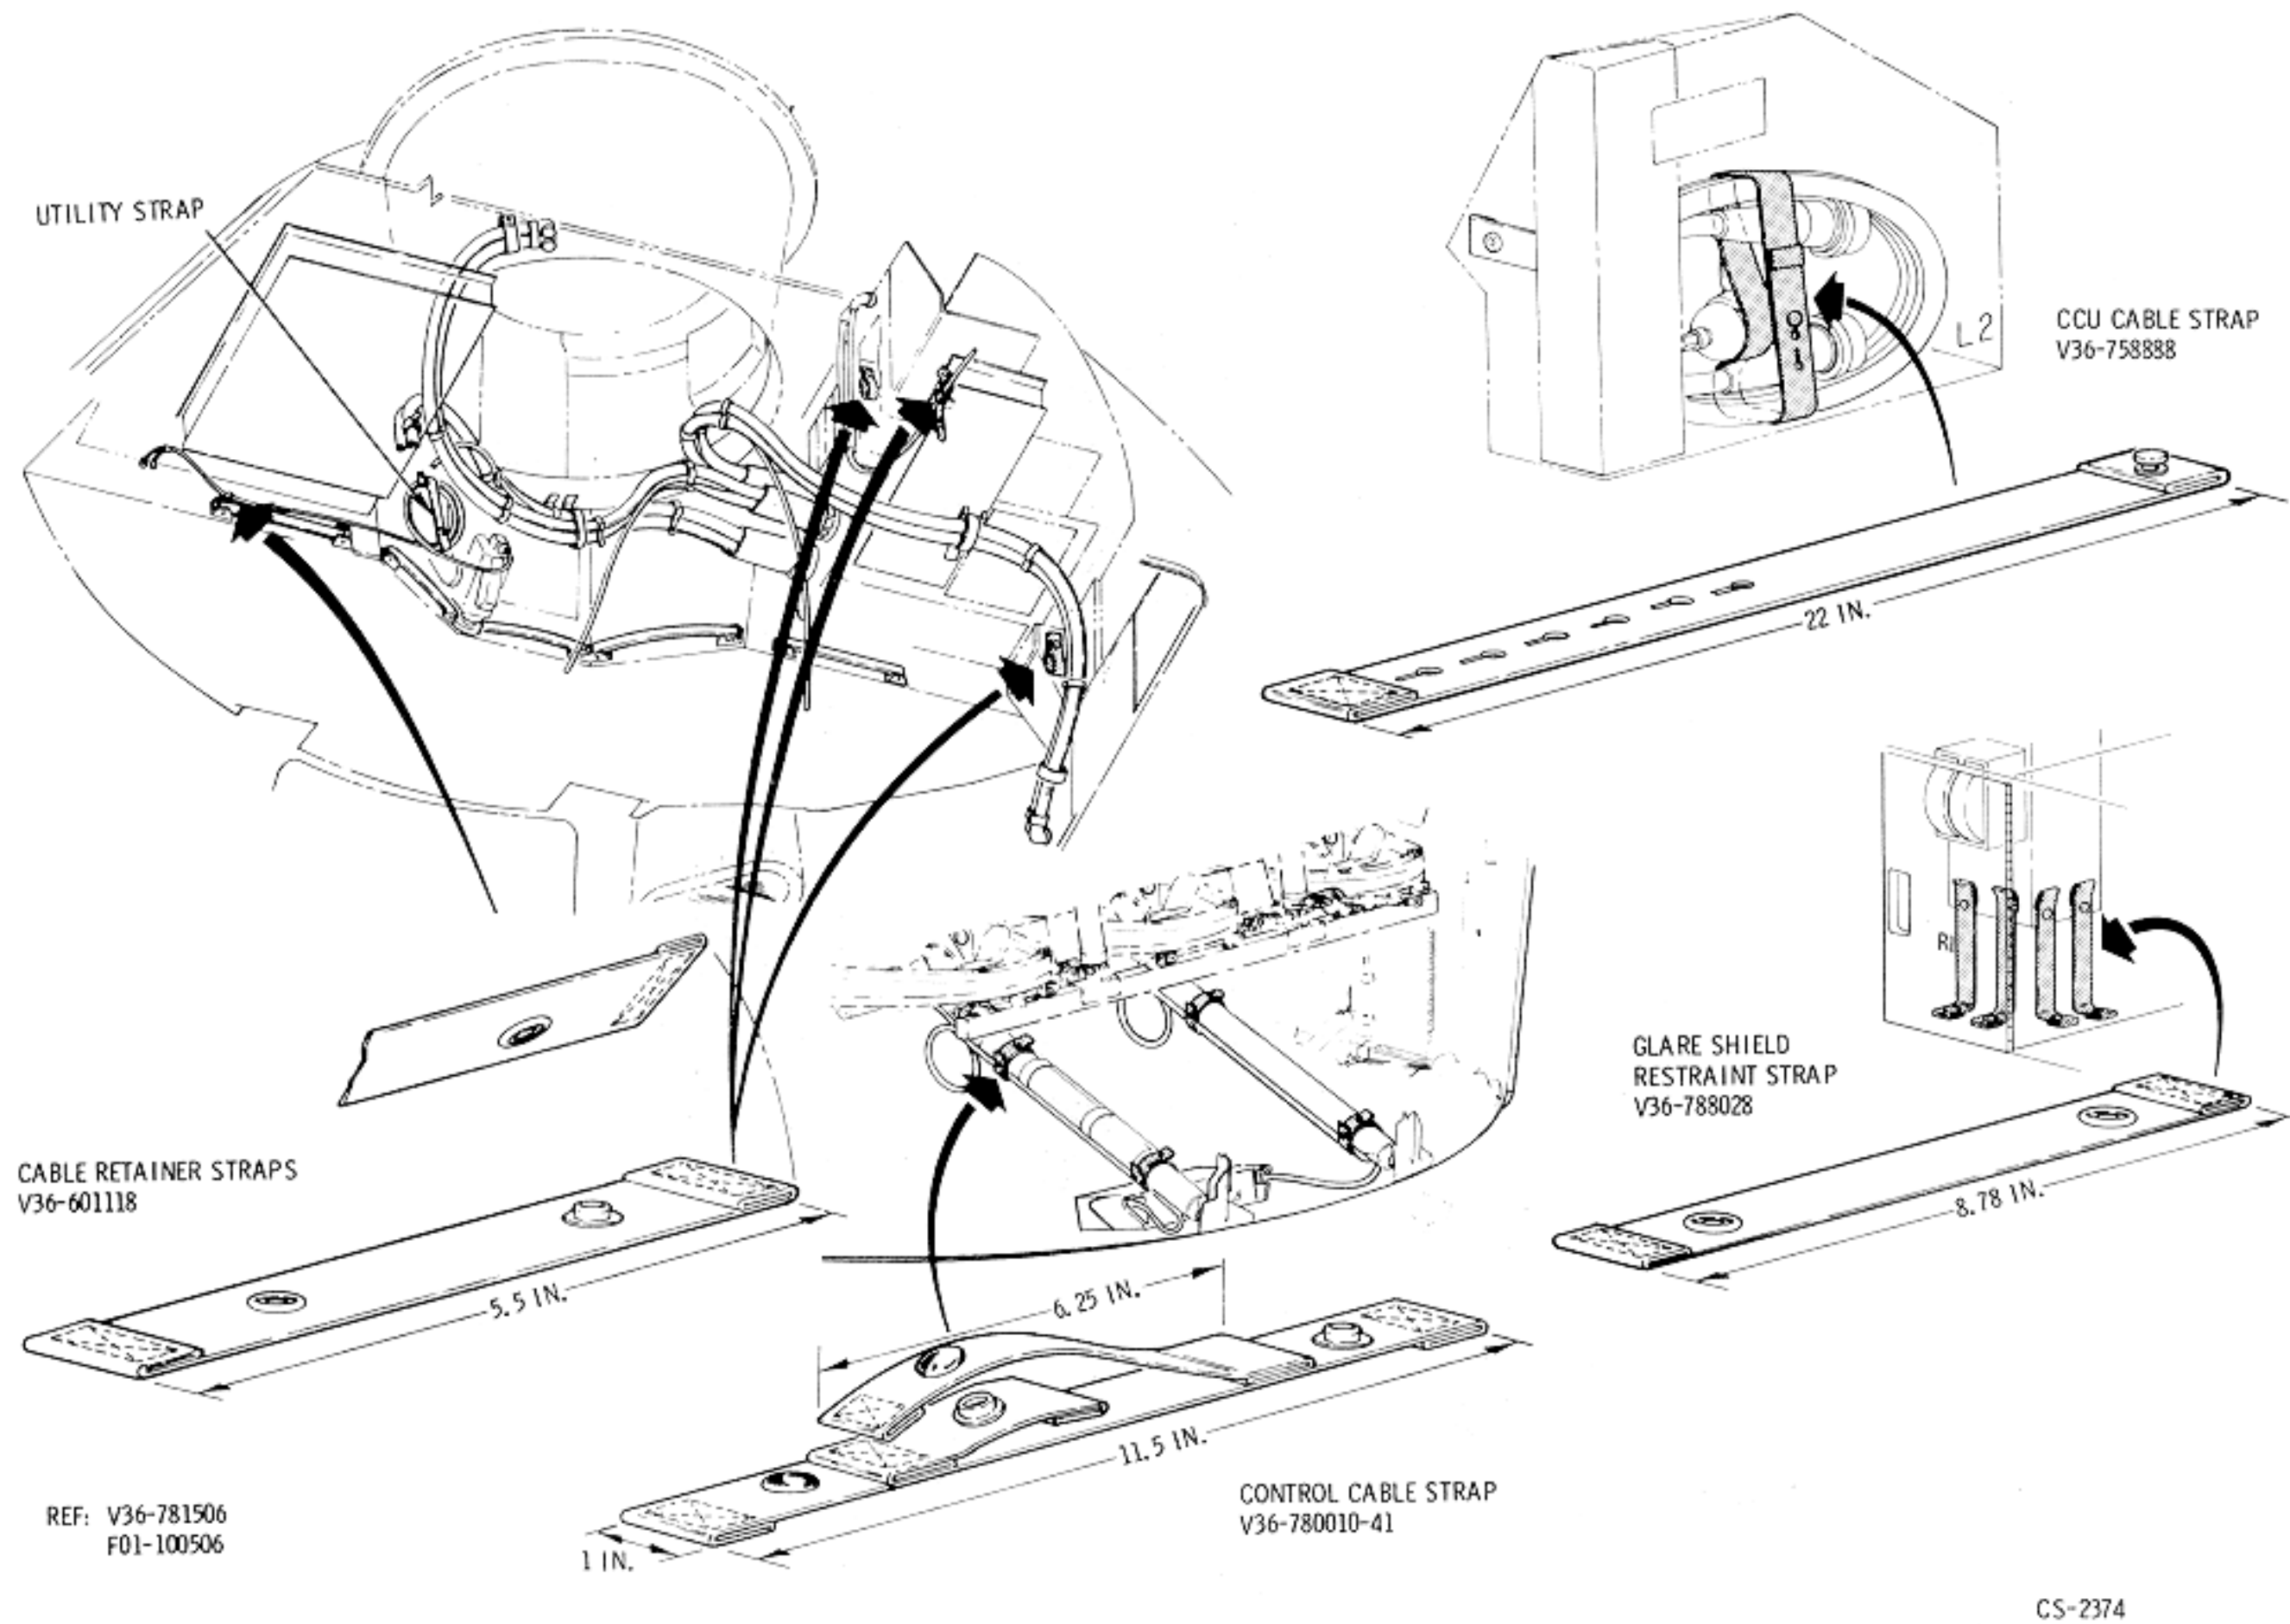

Figure 2.12-12. Special Straps
Control Cable Straps (Figure 2.12-12). The rotation control cables exit the junction box on the aft bulkhead and are routed along the 22 attenuator struts to the couch side stabilizer beams. The control cables are held to the 22 struts by the control cable straps, two on each strut. The straps are 1 inch wide and 11 inches long. Each has four snaps, a pair to snap around the strut and a pair to hold the cable.
Cable Retainer Straps (Figure 2.12-12). The cable retainer strap is 5.5 inches long with a back-to-back socket and stud at one end and a socket at the other end. The socket/stud will attach to studs bonded on the structure and when the socket is attached to the strap stud/socket, it forms a loop. This facilitates routing the TV camera cable and the translation control cable. When not in use, the straps are left attached to a wall stud.
2.12.3.2.7 MDC Glareshade Straps (Figure 2.12-12).